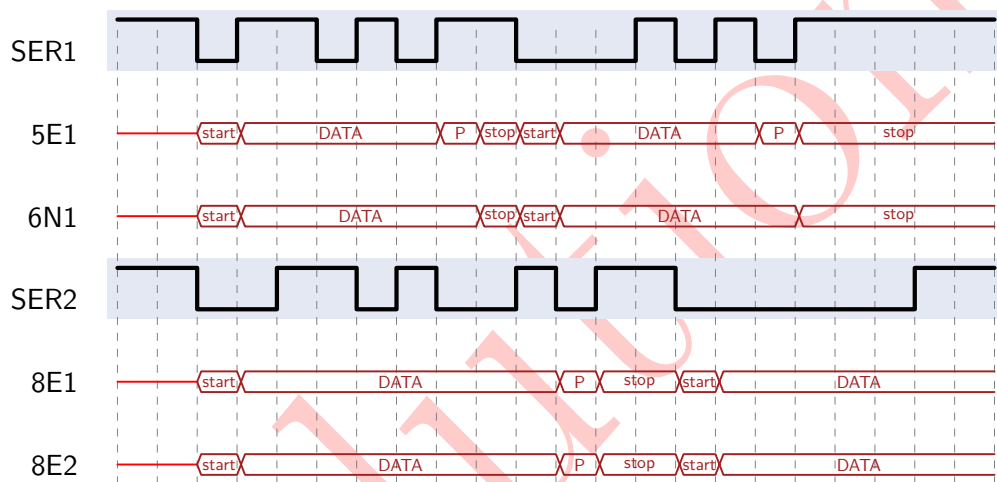

Figure 1.1: Serial interface pulse diagram
In the figure 1.1 the pulse diagram of a RS232 interface is given. Different transmission frames have been used for the communication. A transmission frame is composed of a start bit ('0'), 5-8 data bits, no (N, none) or one bit for even (E, even) or odd (O, odd) parity, as well as at least 1 or 2 stop bits ('1'). Possible frame formats are $[5..8][N,O,E][1,2]$, for example 8N1 for 8 data bits, no parity bit and at least 1 stop bit.
A) Give all possible frame formats for the pulse sequences as shown in figure 1.1. All given pulse sequences are describing a correct transmission. Start of a transmission is always the startbit in the third timestep.